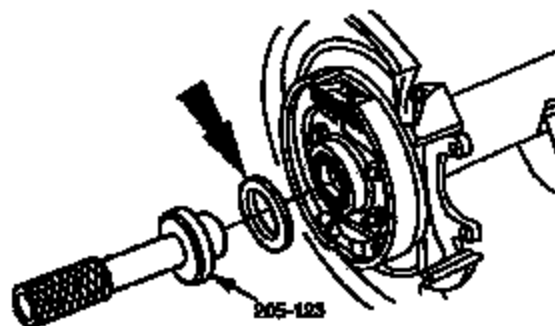

FIGURE 17
4. Using the special tool, install the wheel bearing oil seal (refer to Figure 17).